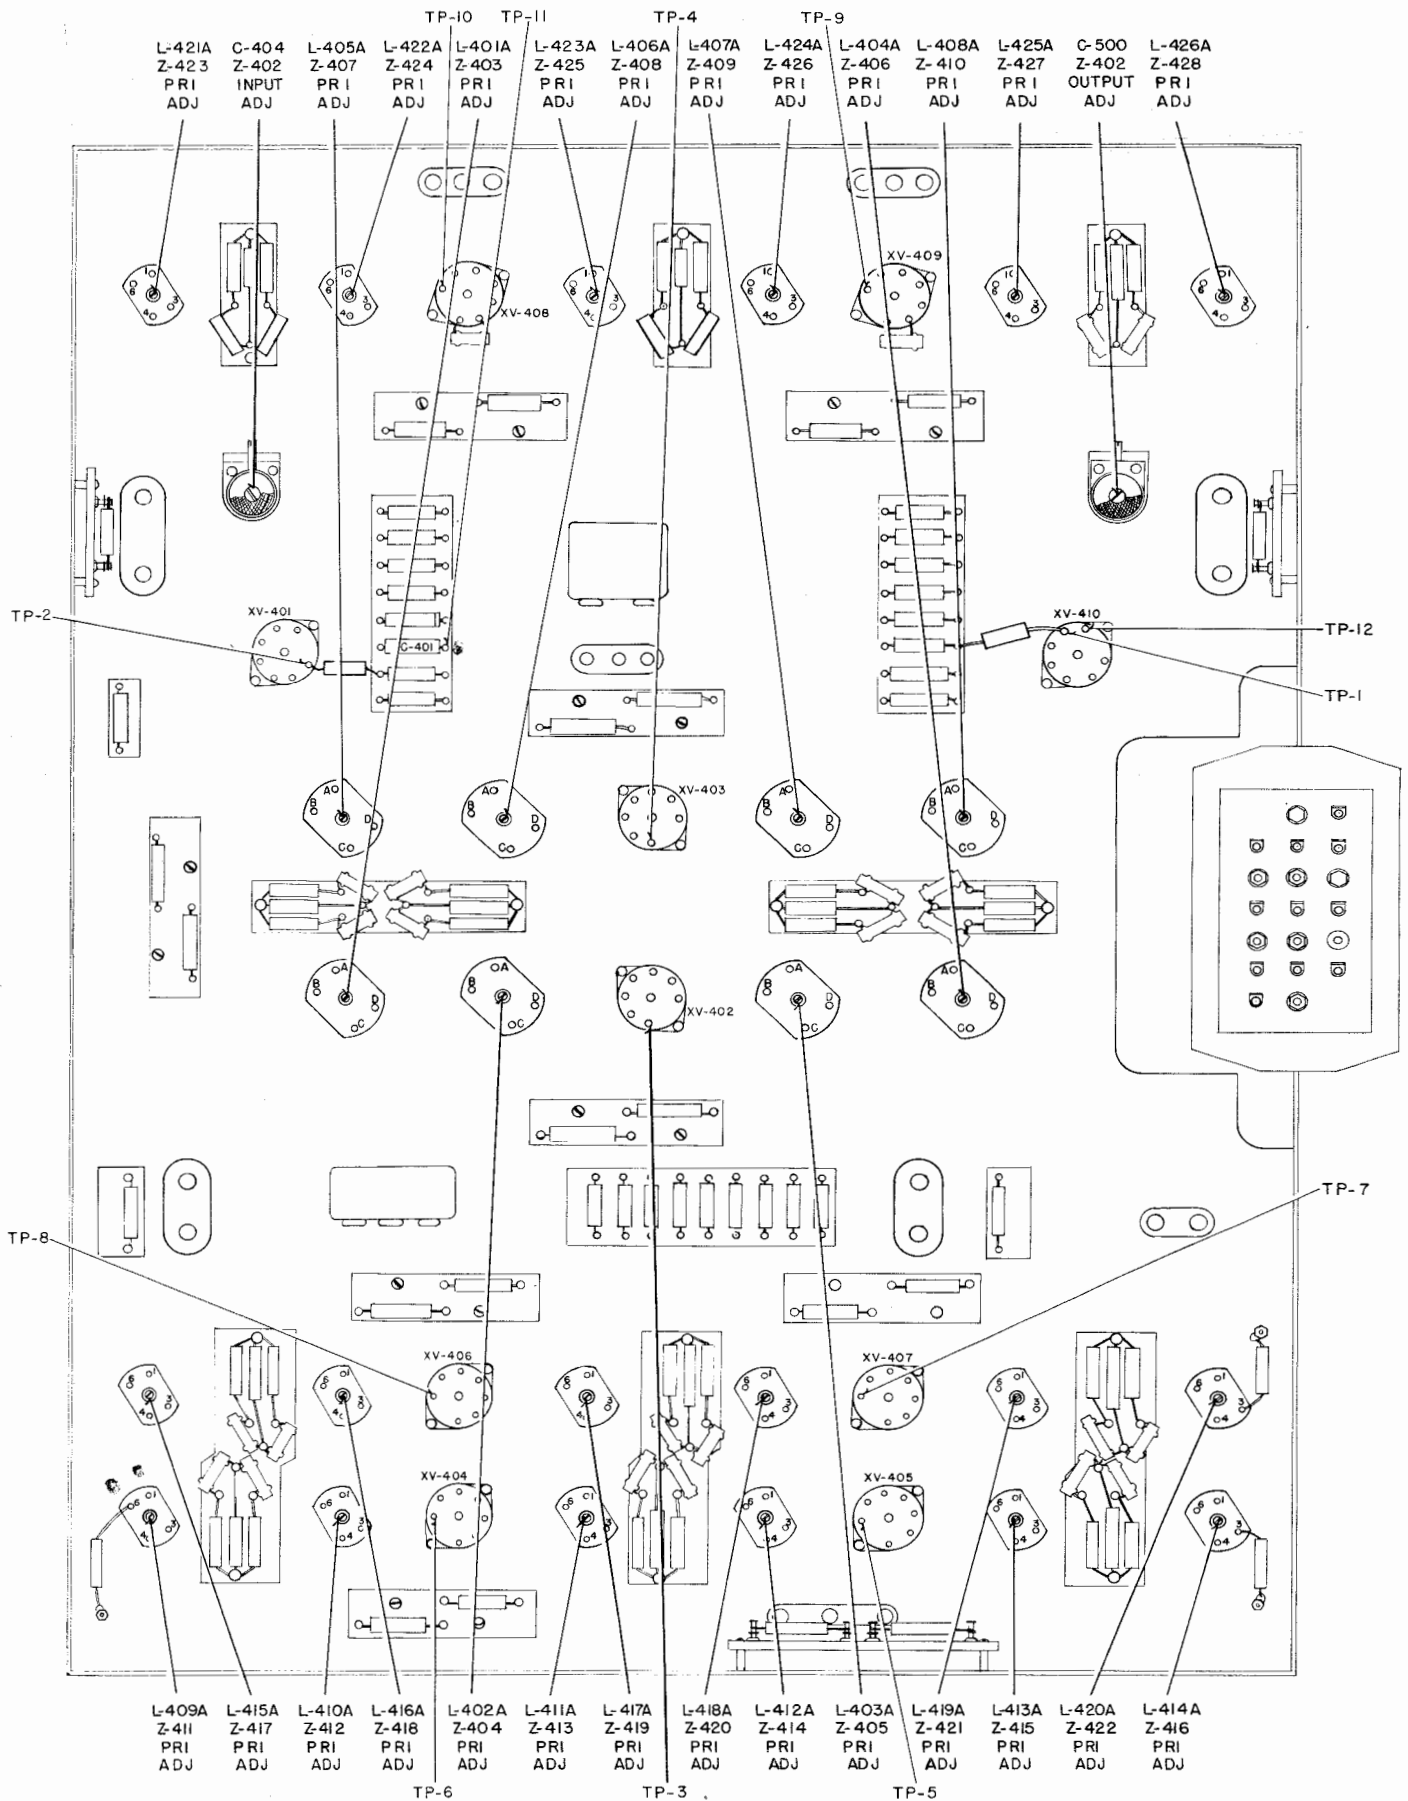

Figure 7-56. Alignment Adjustment and Test Point Locations Bottom of Chassis, Filter Assembly F-99/FRR-24
Step 2. Connect signal generator AN/URM-25 between the input side of C-401 (TP-11, see Figure 7-56) and chassis, in accordance with Method B, Par. 6. a. Connect electronic voltmeter OBQ or ME-25/U between pin 7 of V-410 (TP-12, see Figure 7-56) and chassis.
to follow in effecting the alignment of each filter. All primary adjustments are located at the bottom of the chassis, all secondaries are on the top. Reference to Figure 7-56 will show location and identification of transformer terminals. The three values of resistors listed are all composition, half-watt types. Their stock numbers are: